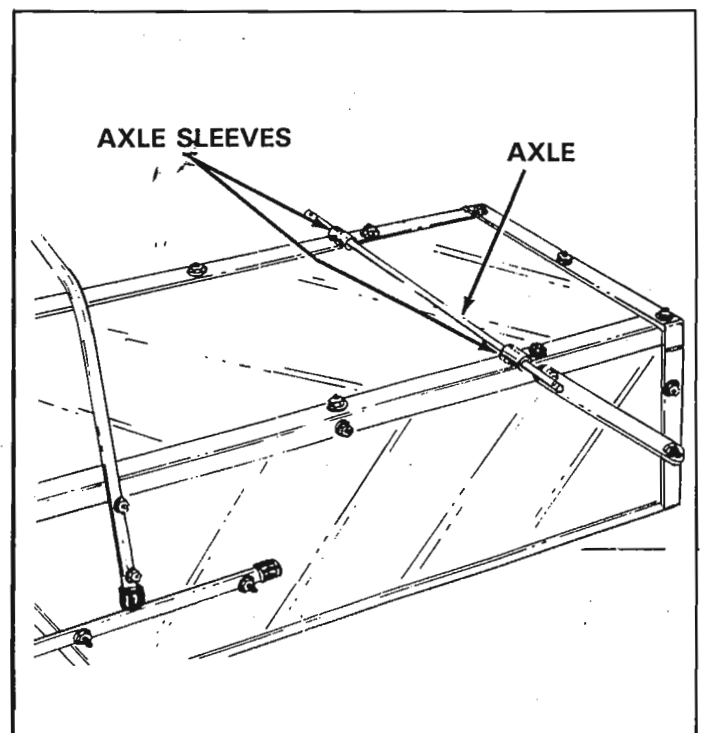

FIGURE 11
- Place axle through axle sleeves as shown in figure 11 page 5. **Tighten all nuts and screws securely.**
- Now lay the cart down, do that it is upside down, to assemble the wheels. See figure 11 and 12.